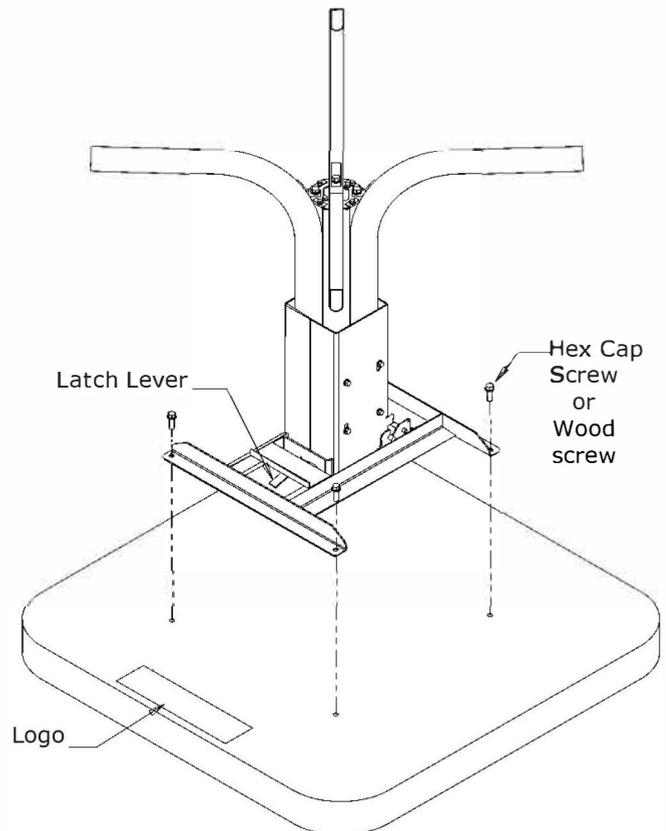

Figure 3
2. **THREADED INSERT INSTALLATION:** Place table base so that latch lever is adjacent to Table Plus logo on the table top. The four threaded anchors form a special hole pattern that ensures proper orientation of the table top to the table base. Insert all four (4) 5/16 - 18 x 5/8" hex cap screws and then tighten using a 1/2" socket wrench (Figure 3). Tighten all bolts until nut, but do not overtighten. Excessive torque will damage threaded inserts.